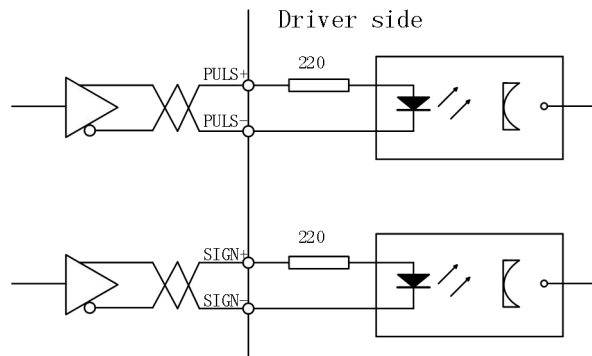

Fig. 2-7 Differential Drive Mode of Type3 Pulse Input Interface
6. If the pulse quantity is 24V, the port IN-PS, PULS-, IN-DS and SIGN- can be used, as shown in Fig. 2-7(c). In this case, no external resistor is required.